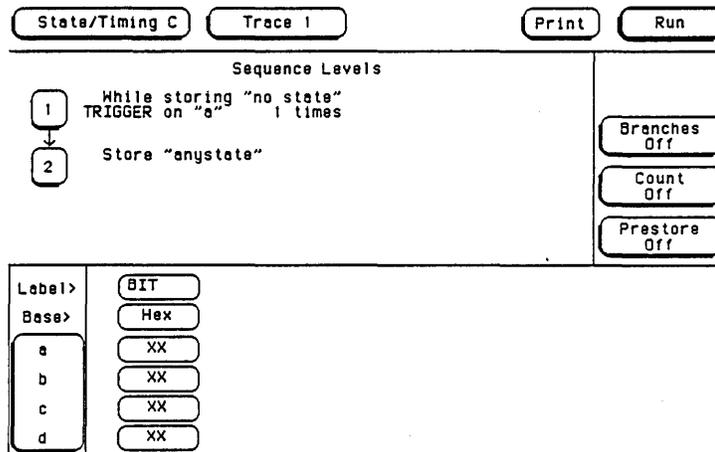

Figure 3-10. Trace Screen
- Set up the Trace screen without sequencing levels and set Count to Off as in figure 3-10.
- Set up the Trace screen without sequencing levels and Count Off as in previous test figure 3-10.